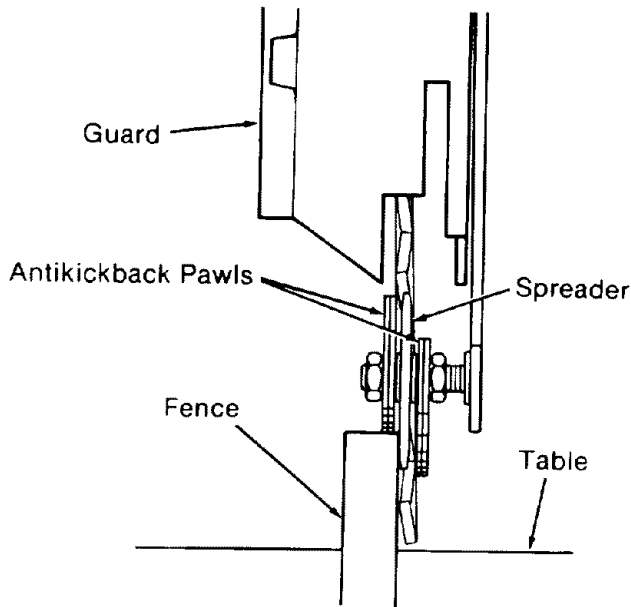

Fig. 80
11. Lower the *spreader* and *antikickback* pawls until the *spreader* is against the *fence*, and the *pawls* on one side of the *spreader* are on top of the *fence*. (Figure 80)